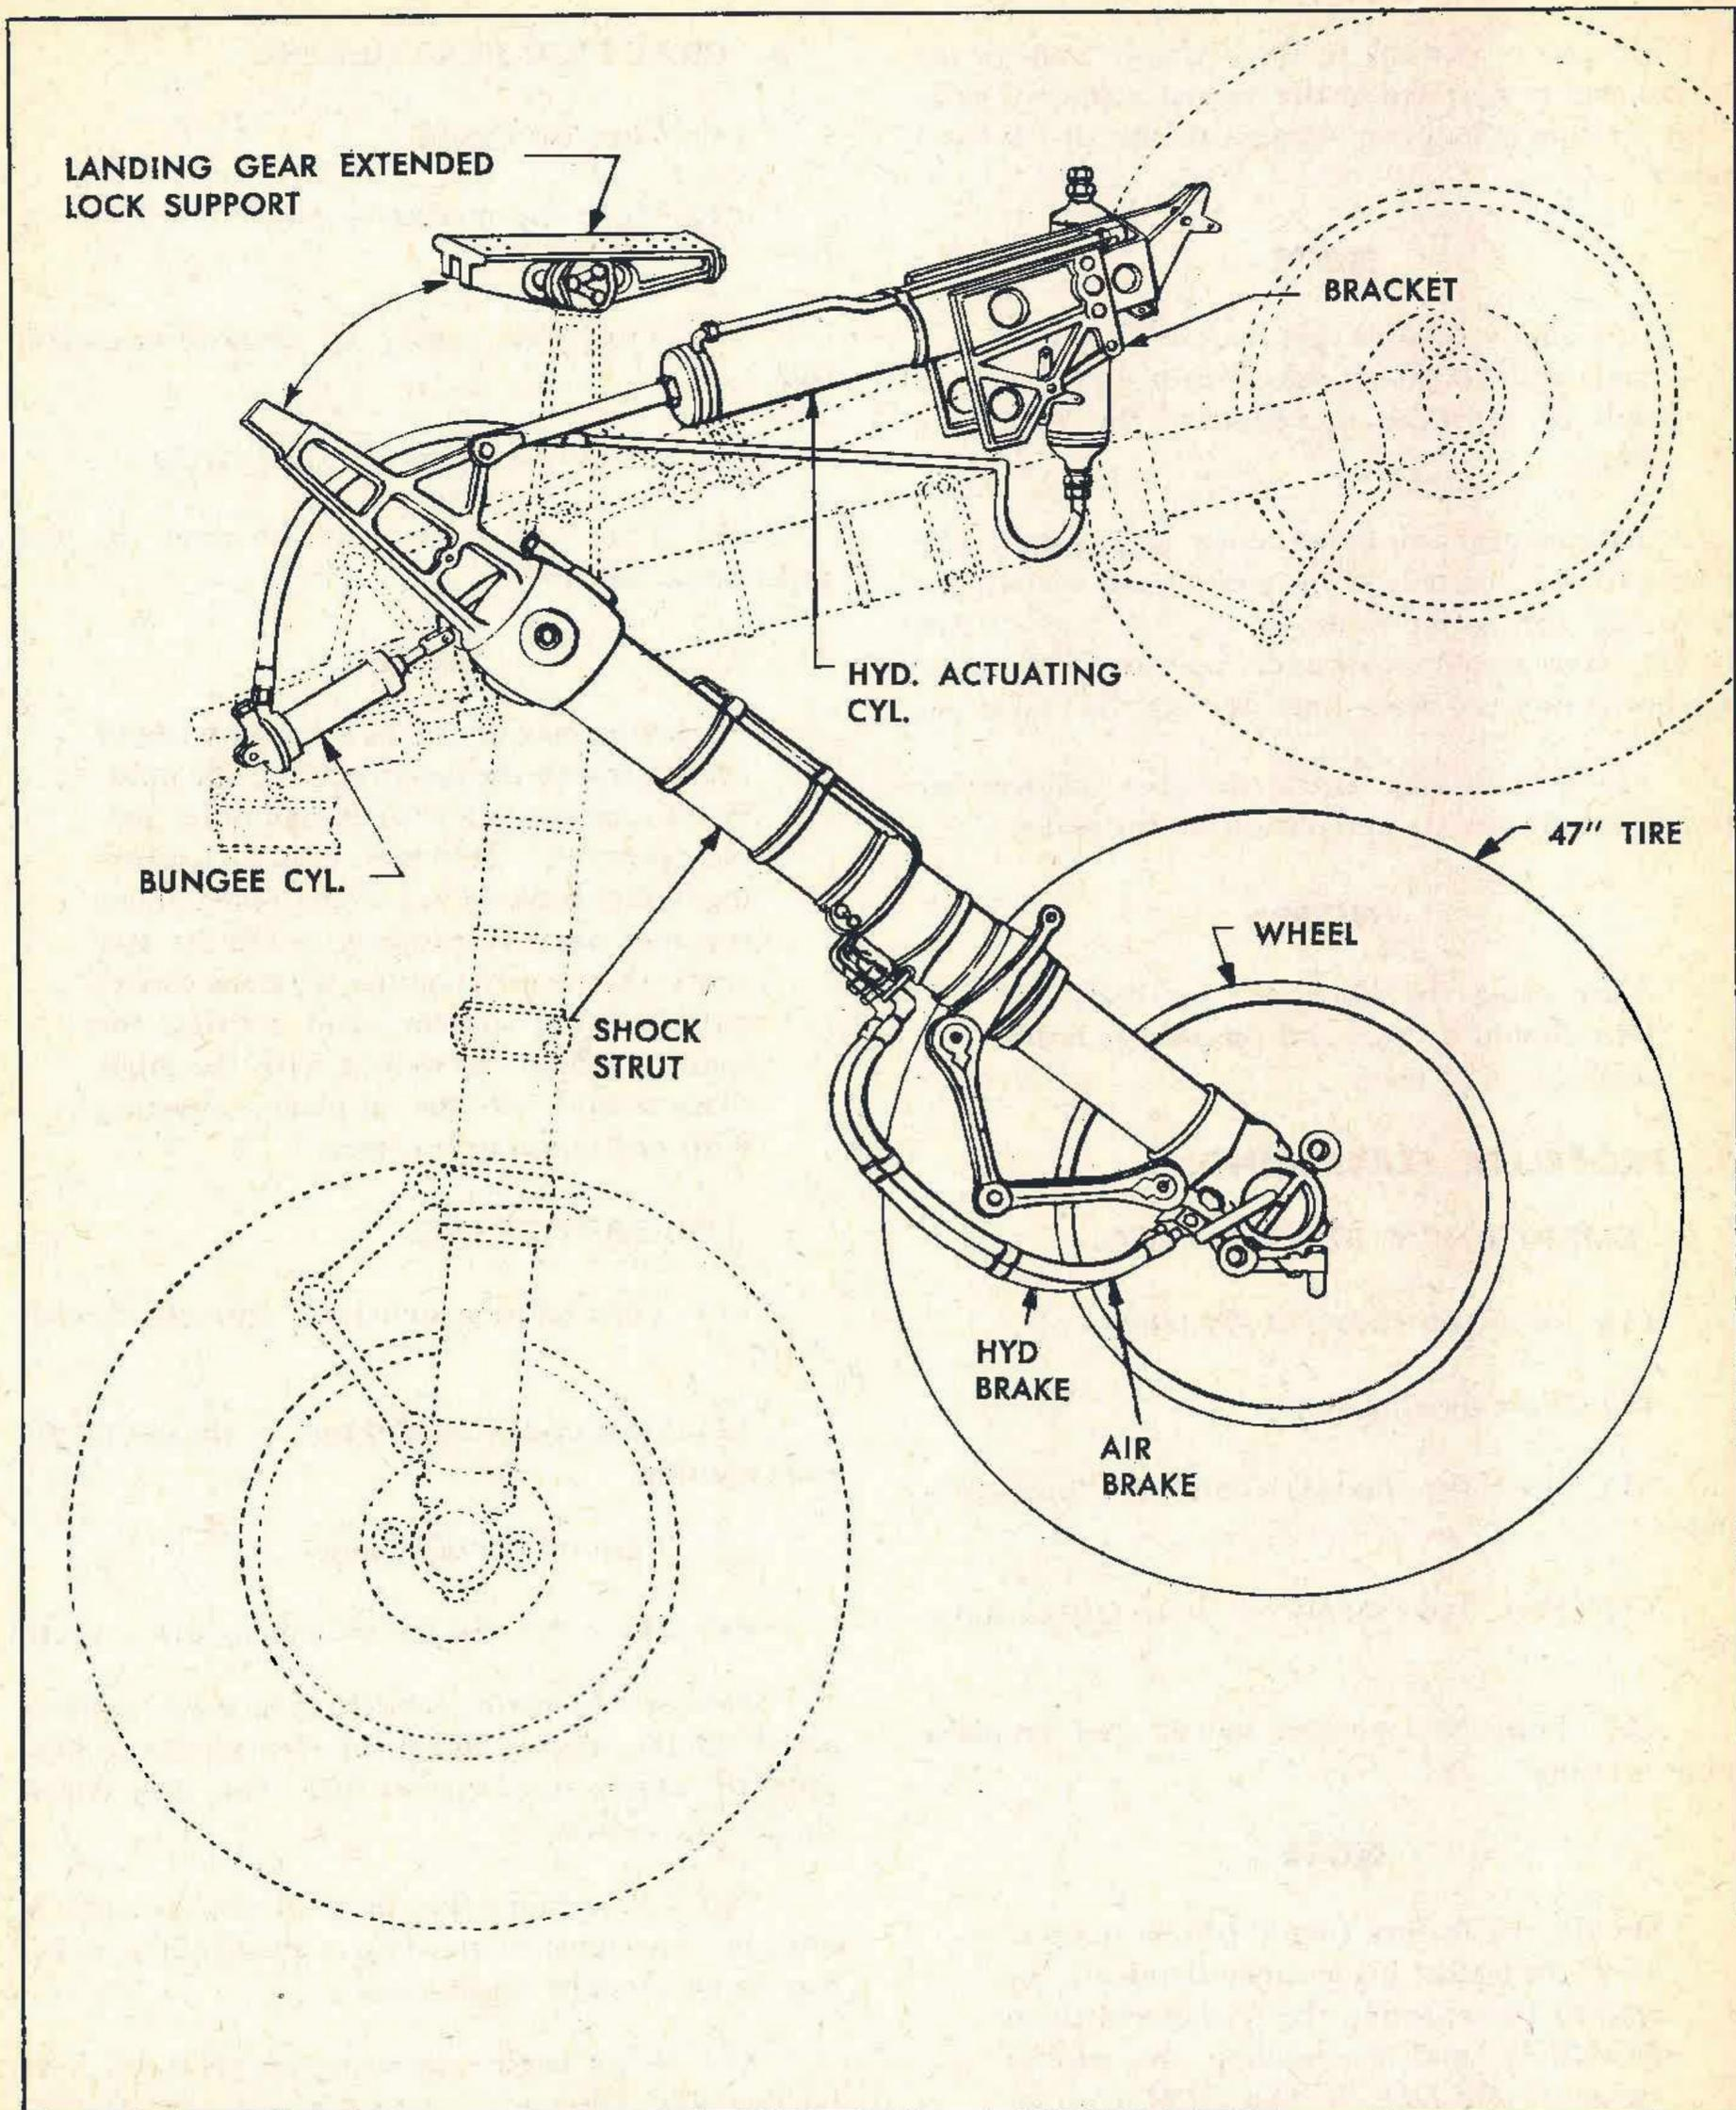

Figure 25 — Main Gear Hydraulic Operation
c. EMERGENCY OPERATION OF LANDING GEAR. (Fig. 25.)
(1) In event of failure of the main hydraulic system, lower the selector valve knob and with hand pump selector valve on SYSTEM, operate hand pump until wheels are all locked DOWN. If this method fails, leave selector valve knob DOWN, and PULL the landing gear emergency release handle to extend the gear. Hold the handle up until the nose gear is locked down, then RELEASE.